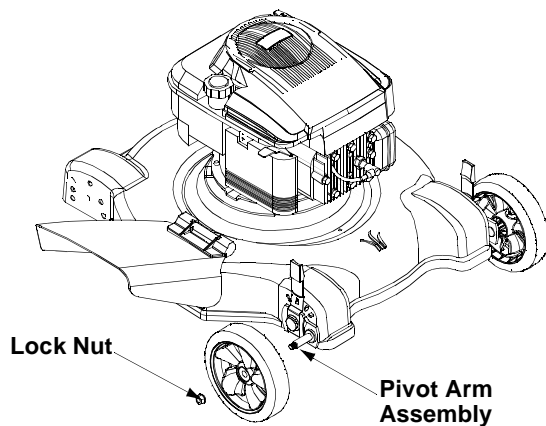

Figure 5
- Slide wheel onto pivot arm assembly and secure with lock nut. See Figure 5.